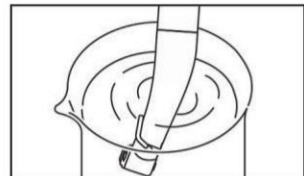

Fig. 11
- step 3: Only for E20L/ E20) Immerse about 20mm of the handpiece head in water, and rotate the handpiece for about 15 seconds while switching the Forward/Reverse rotation direction (Fig. 11),